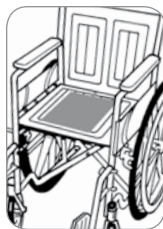

Fig. 29
3. Place sensor pad FLAT across width of seat (Fig. 29). Make sure sensor cord is either to the back or side of seat.